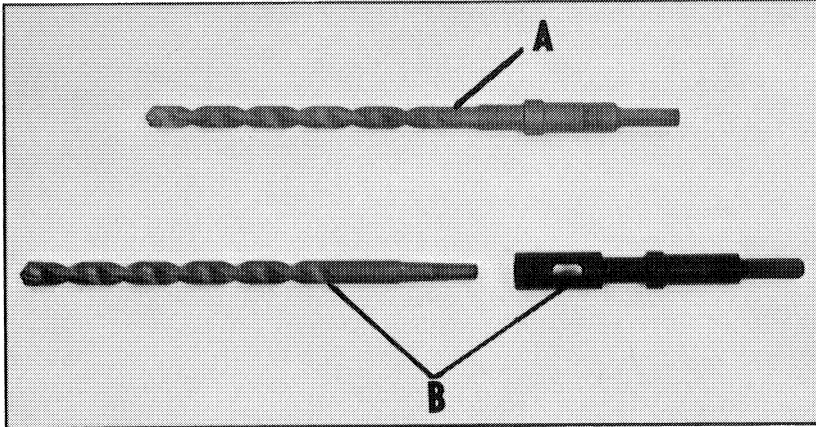

Fig. 7
Your Rockwell Rotary Hammer is designed to utilize percussion type carbide tip bits in one piece shank configuration (A) Fig. 7. or taper shank configuration with drill holder (B) Fig. 7.